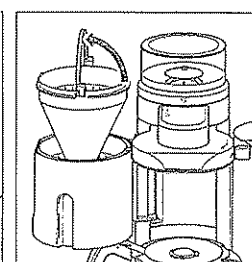

Figure 16
- Place your finger in the rear handle recess (Figure 16) and pull the bracket up. This unlocks the filter insert and it can be removed for cleaning.